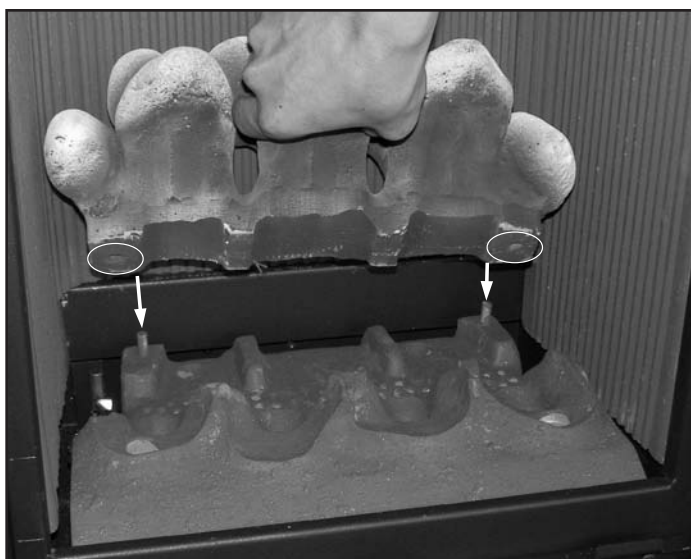

Figure 44: Installation of Rock Cluster.
2. Place the rock cluster onto the burner. There are two (2) pins on the back of the burner and two (2) holes in the bottom of the rock cluster (refer to Figures 44 & 45).